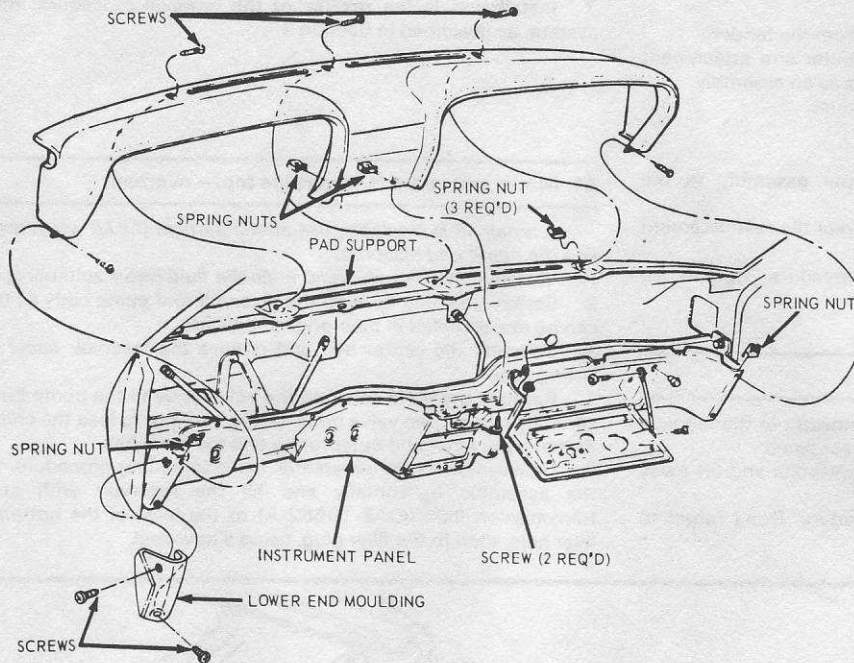

Fig. 12.22 Instrument pad and retainer – removal (Sec 29)
- 1 Remove the right and left lower-end mouldings for access to the attachment screws at the lower ends of the pad (see Fig. 12.22).
- 4 Installation is the reverse of the removal procedure. Ensure that all the spring nuts are positioned as shown in Fig. 12.22.